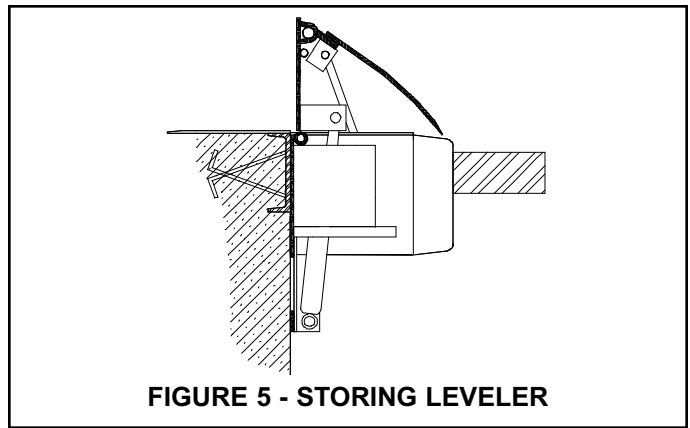

FIGURE 5 - STORING LEVELER
1. Push and hold the "UP" button to raise the leveler until the lip clears the rear of the trailer bed and release the button. See figure 5.